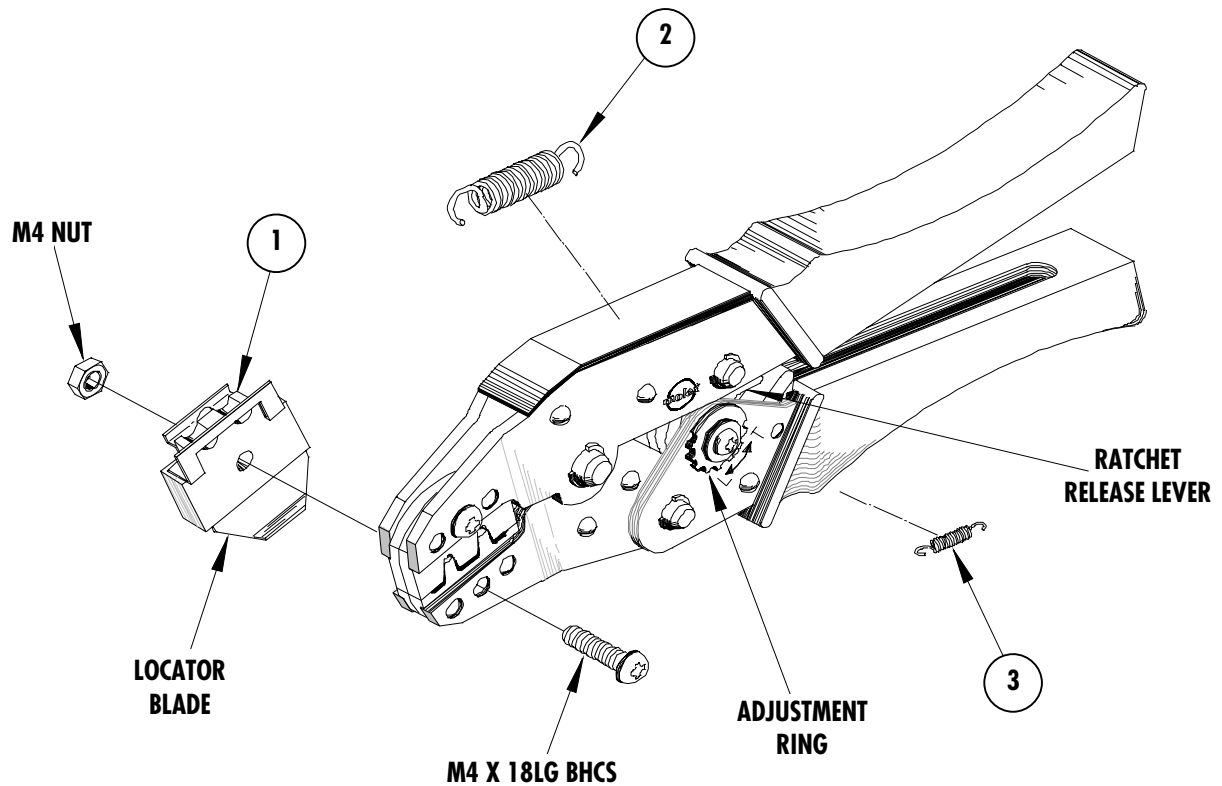

Figure 4
Should this tool ever become stuck or jammed in a partially closed position, **Do Not force the handles open or closed.** The tool will open easily by lifting the ratchet release lever (See Figure 4).
4. Close the tool until the ratchet releases, (See Figure 4).
How To Adjust Tool Crimp Force (See Figure 4)